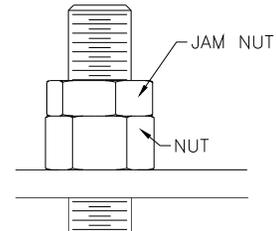

Fig 16 – Cable Jam Nut
- 24) Secure the cables to the top of the column with the nut and jam nut provided, **Fig 16**.